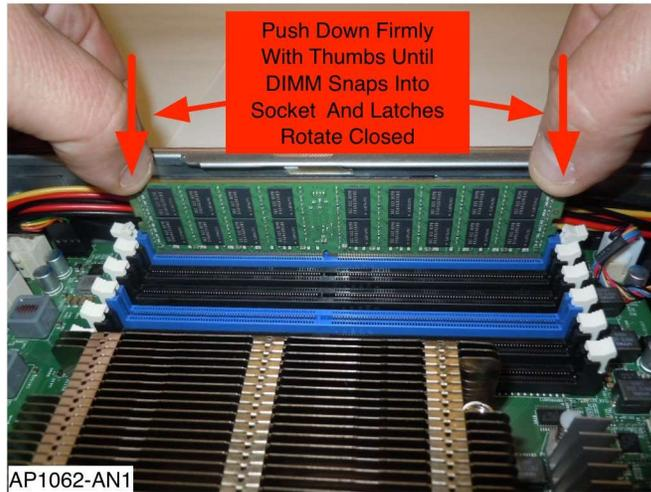
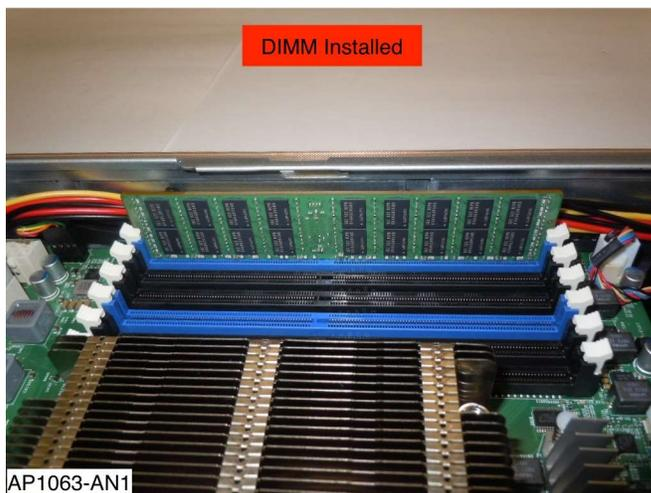

Figure 11: Installing DIMM
Figure 12: DIMM Installed
- 1.7.4 Using both thumbs, apply firm even downward pressure on the top edge of the DIMM, near the outer ends. Keep the DIMM steady and vertical when applying pressure. The DIMM should snap into place and the latches should rotate inward. See Figure 11 and Figure 12.